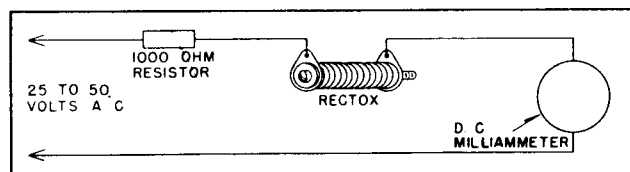

FIG. 14. Ground Test of Rectox.
A. Connect as shown in Fig. 14.